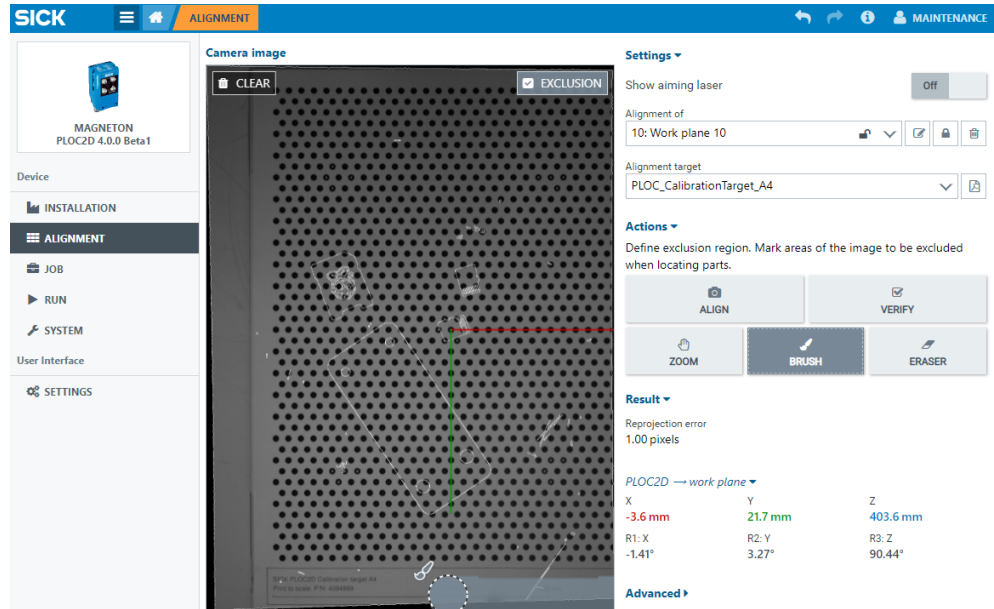

Figure 19: Work plane exclusion region
- Click **Brush** to draw an exclusion region. See figure 19.